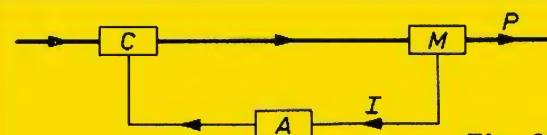

Fig. 29
the results of the process is fed back to a point where these results can be influenced. Automatic control of processes always takes place in a closed loop, where a stream of information and a stream of results are coupled via an amplifier (A) head to tail by a measuring device (M) and a control unit (C) (fig. 29).